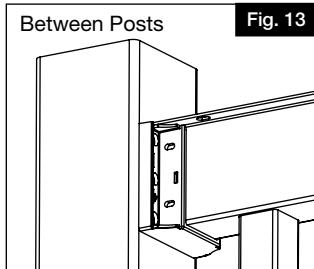

Fig. 13
- i. Make sure rails are fully seated with balusters and level and centered to post sleeve. While holding the top bracket snug to rail from underneath, and using  $\frac{1}{8}$ " drill bit, pre-drill first top bracket screw hole (Fig.13 & 14).